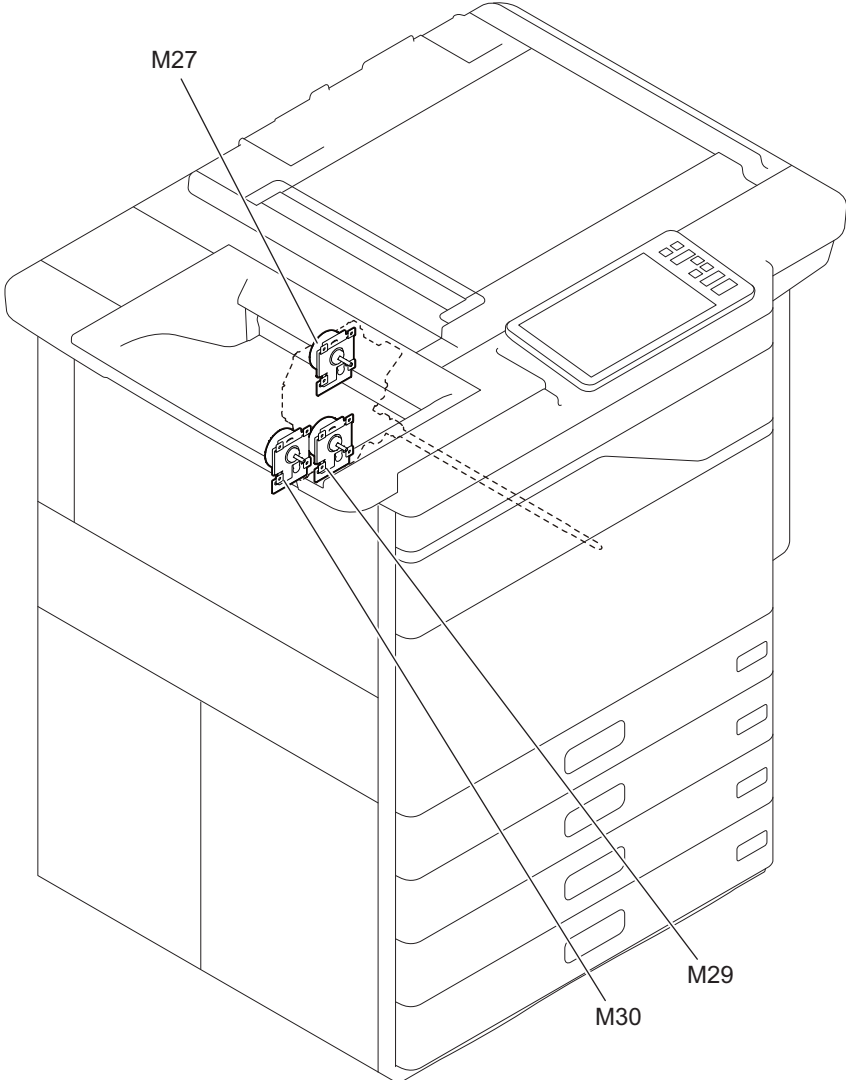

Fig. 3-13
| M27 | Drum motor (K) | Drives the drum. | [E] Developer unit Fig. 3-13 | 56-17 |
| M29 | Developer unit mixer motor (K) | Mixes the developer material. | [E] Developer unit | Fig. 3-13 | 56-19 |
| M30 | Developer unit motor (K) | Drives the developer sleeve (magnetic roller) of the developer unit and toner recovery auger. | [E] Developer unit | Fig. 3-13 | 56-19 |